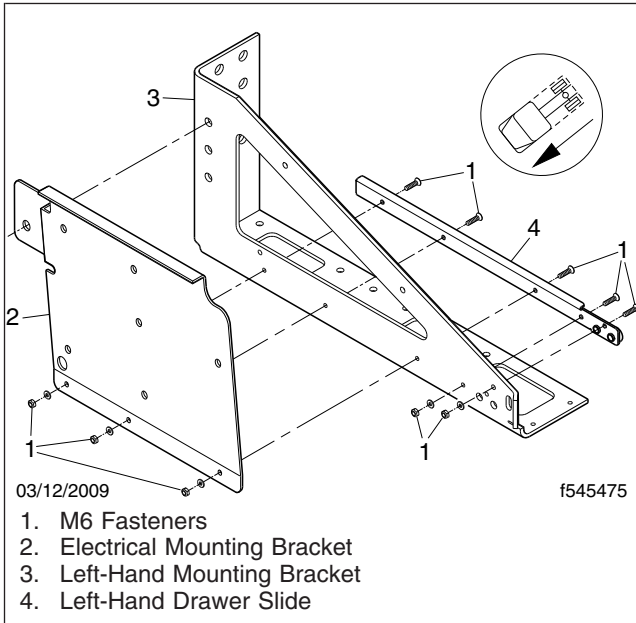

Fig. 3, Mounting Battery Drawer Slides
10. Using M6 fasteners, mount the new battery drawer slides to the brackets. See Fig. 3. Tighten the fasteners 60 lbf·in (678 N·cm). If required, install the striker plates.